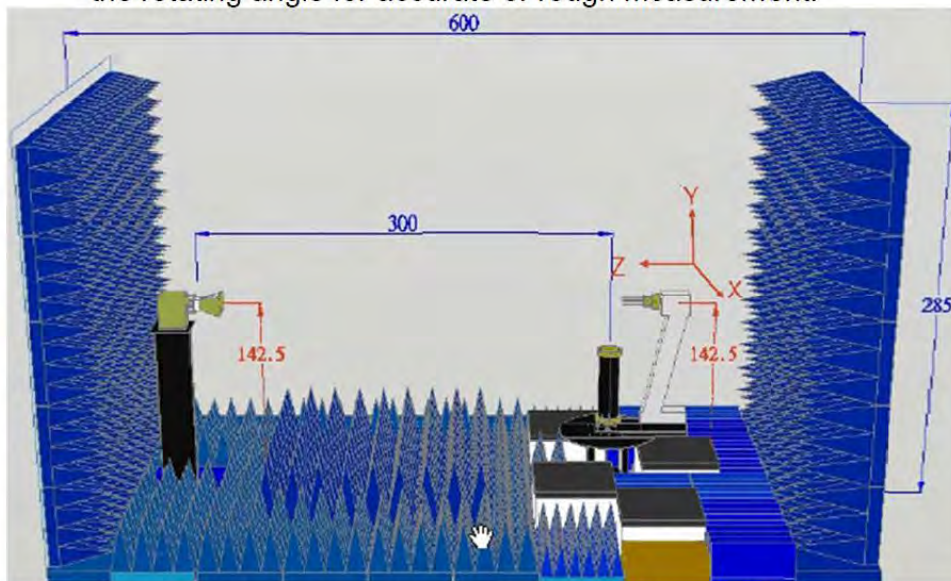

Fig.2 The interior components of the anechoic
(1) The anechoic chamber is a far-field measurement system with size of 3.25M*2.84M*6.4M. The quiet zone of this chamber shall be greater than 70cm @ 0.9GHz, 50cm @ 1.8GHz, 44cm @ 2.4GHz, 28cm @ 5.8GHz, 16cm @ 18GHz.
(2) Fig.2 shows the interior components of the anechoic chamber.